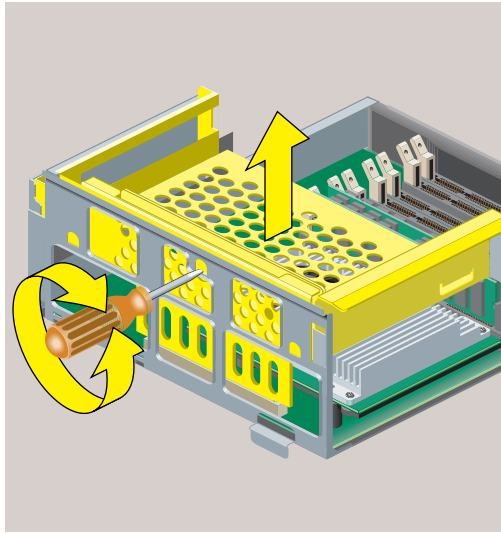

Figure 2-33 Removing the PCI Tray From the R10000 System Module
- Insert a screwdriver in the small opening shown (Figure 2-33) and a prying or twisting motion to release the PCI tray from the system module.